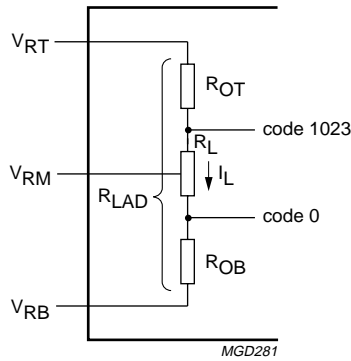

Fig.4 Explanation of note 4.
- In order to ensure the optimum linearity performance of such converter architecture the lower and upper extremities of the converter reference resistor ladder (corresponding to output codes 0 and 1023 respectively) are connected to pins V_{RB} and V_{RT} via offset resistors R_{OB} and R_{OT} as shown in Fig.4.